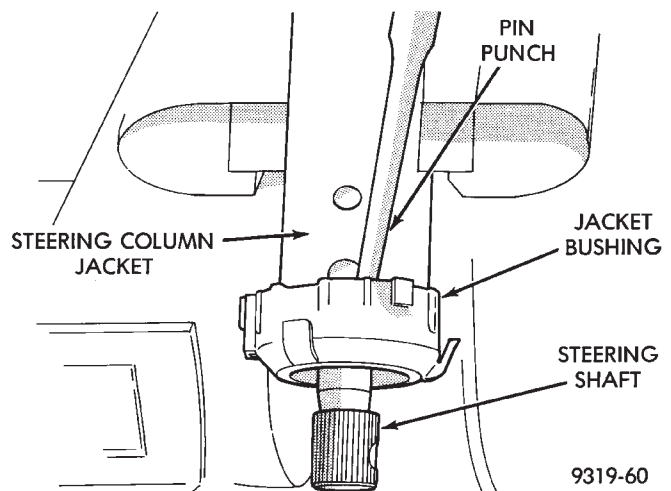

Fig. 5 Jacket Bushing Removal From Steering Column Jacket
(4) Using a pin punch lightly tap jacket bushing off end of steering column jacket and steering shaft (Fig. 5).